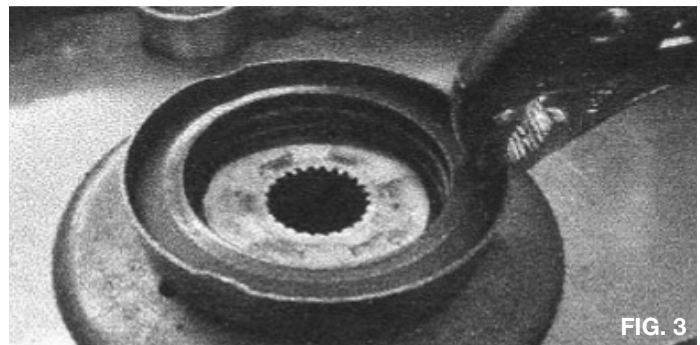

FIG. 3
7. Bend back one of the three crimps that retain the Bellville spring pack (figure 3).